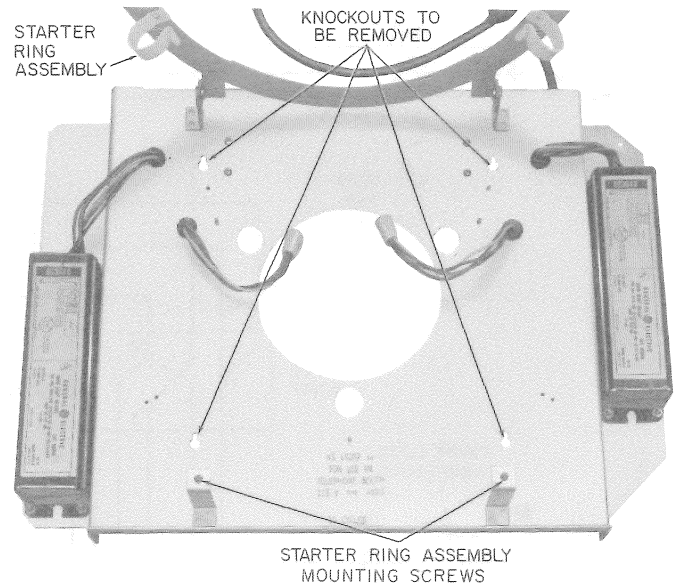
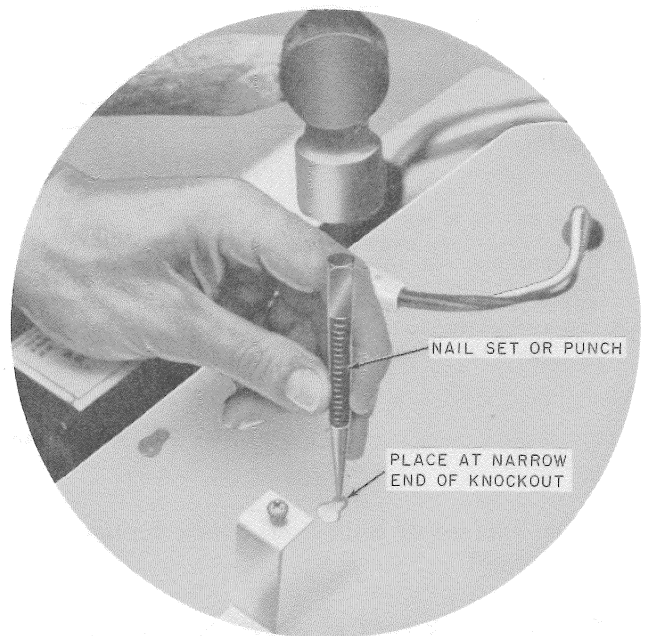

Fig. 11—KS-19207 Light Fixture With Starter Ring Assembly in Raised Position
Fig. 12—Removing Knockout
- (h) Position KS-19207 light fixture in a suitable work area, loosen the two starter ring assembly mounting screws, and raise the starter ring assembly as shown (Fig. 11).
- (i) Remove the knockouts (Fig. 11) as shown in Fig. 12.